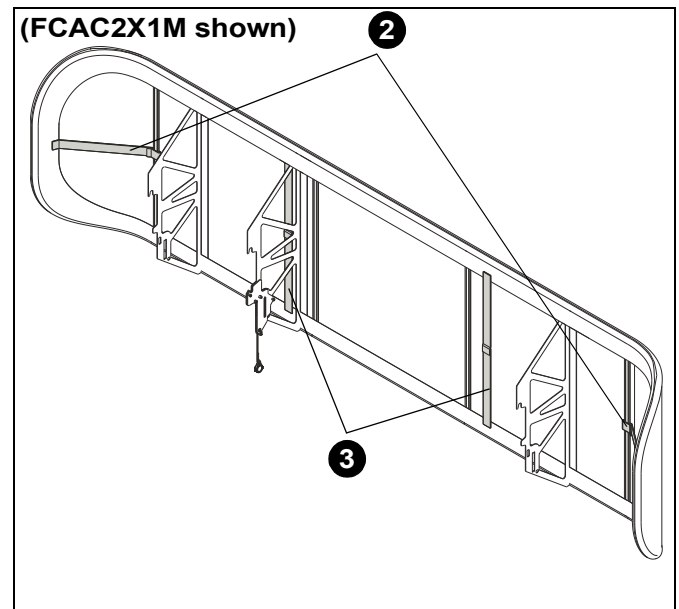

Figure 12
2. Wrap outside straps around outside vertical rails on frame. (See Figure 12)
3. Fasten vertical straps within cover to ensure a snug fit over frame. (See Figure 12)